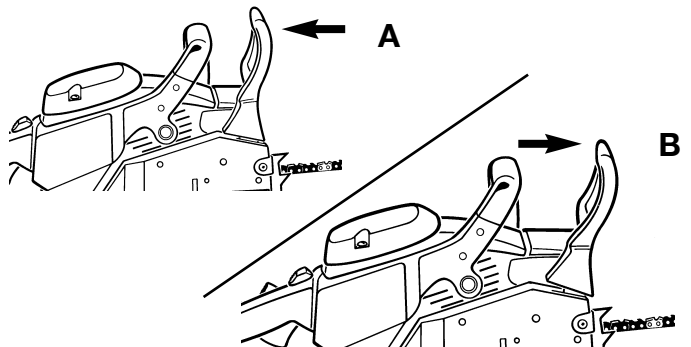

Fig. 30
2. The Chain Brake® is **ENGAGED** (chain is stopped) when brake lever is in forward position. You should not be able to move chain (B, Fig. 30).